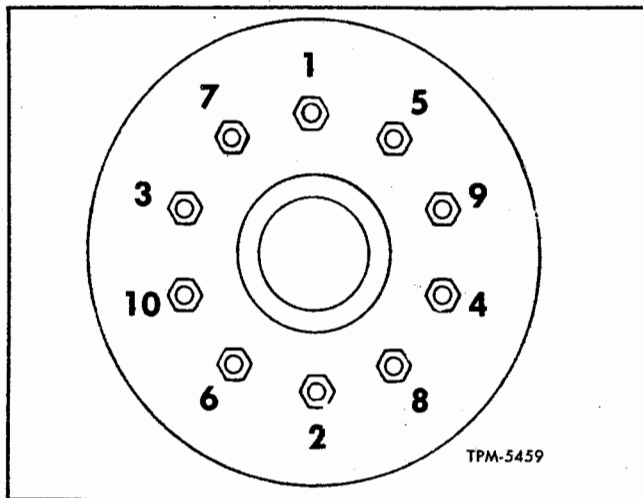

Figure 7—Wheel Nut Tightening Sequence
It is important that wheel stud nuts be tightened alternately on opposite sides of wheel. A suggested sequence for tightening is shown in figure 7, and a recommended procedure is as follows:
2. Tighten nuts progressively, in the sequence shown in figure 7, with torque wrench until torque limit is reached. Do not tighten each nut completely at one time but progress from one nut to another so that wheel is tightened uniformly.